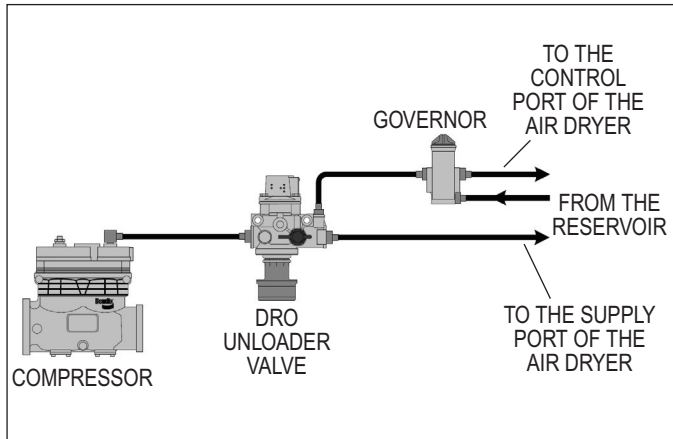
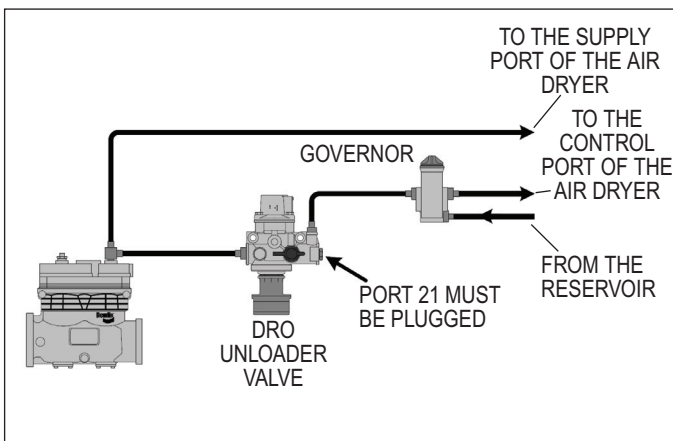

FIGURE 3 - SERIES CONFIGURATION
FIGURE 4 - PARALLEL CONFIGURATION
The series configuration, shown in Figure 3, allows all the compressor discharge air to pass through the valve and into the dryer or reservoir.
The parallel configuration, shown in Figure 4, allows the DRO unloader valve to be mounted using a branch circuit. This branch circuit provides the flexibility of installing the unloader valve in a more convenient location. The branch line should not run uphill or have kinks or sharp bends that may trap condensed liquids.
3. For series installation, install a discharge line from the compressor to the DRO valve, as shown in Figure 3. For parallel installation add another discharge line into the existing compressor discharge line using a tee fitting. Connect the opposite end of this new line to the DRO unloader valve as shown in Figure 4. The valve must be at the same height or lower than the discharge line.